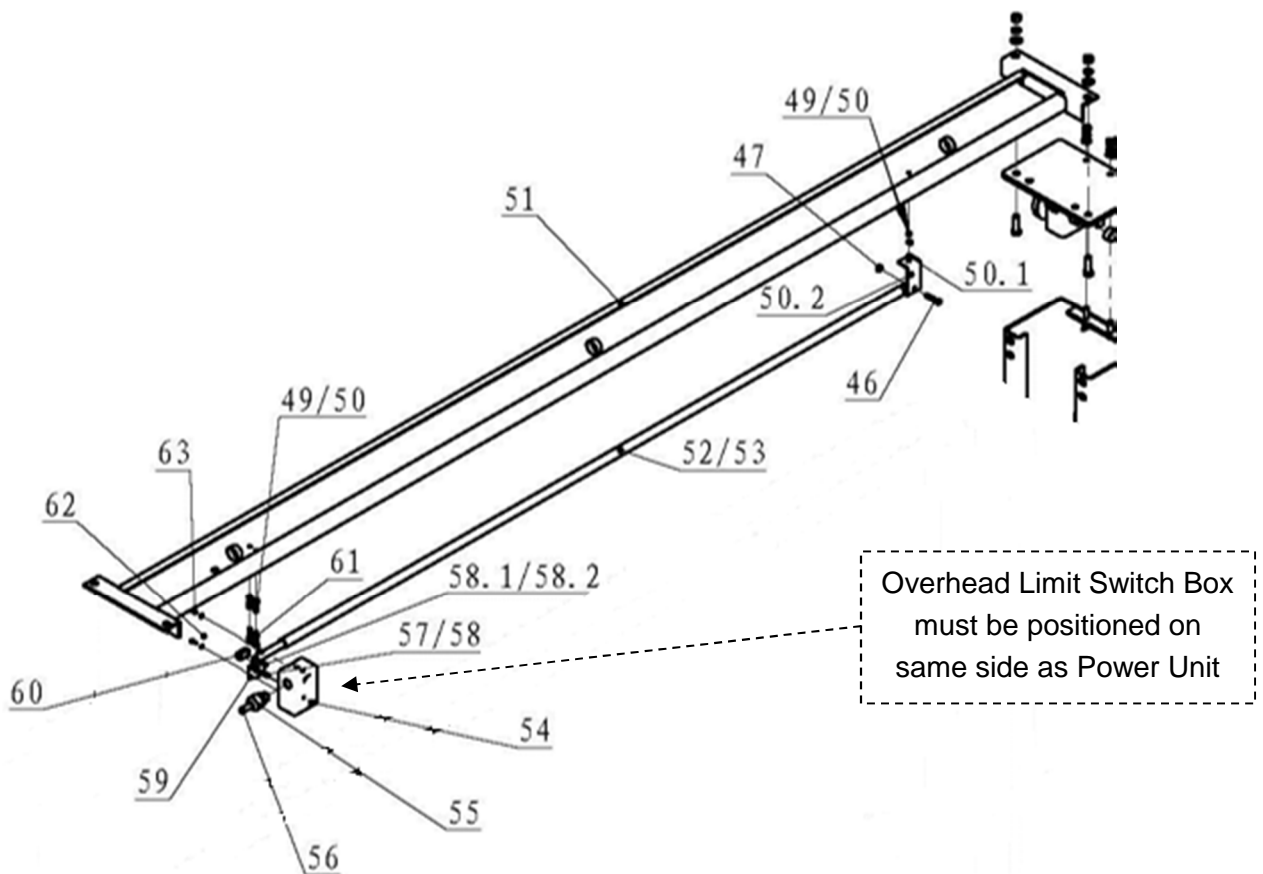

Fig. 6
2. Assemble and mount the Overhead 'padded' Shut-Off Bar & Limit Switch assembly to the Overhead Beam, as shown below in (Fig 6).
3. Using a lifting device, raise the Overhead Beam assembly and position on top of the columns. Bolt it to the columns using the bolts, nuts and washers, as shown in (Fig. 6).